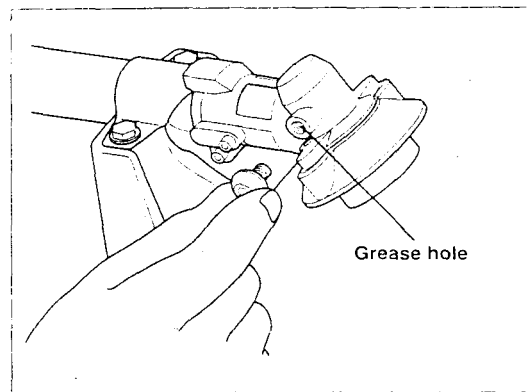

Fig. 30
5. Apply grease (SHELL ALVANIA No. 3 or equivalent) to the gear case through the grease hole every 30 hours (Fig. 30).